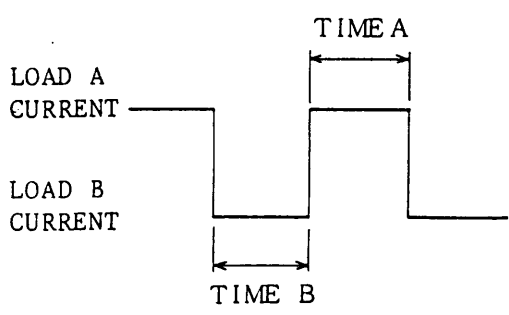

Figure 2-6-1
- (1) Set the Electronic Load to the constant current or resistance mode as described previously.
- (2) Set the DC SW switch to the SW (~~CC~~) state. The loading current will be switched between the levels set by the LOAD A and LOAD B knobs.
- (3) The switching periods are adjustable with the TIME A knob for the LOAD A current and with the TIME B knob for the LOAD B current.
- (4) Switching period range selector
- (5) Loading current monitor terminal (See Figure 2-6-1 for an example of switched loading current.)